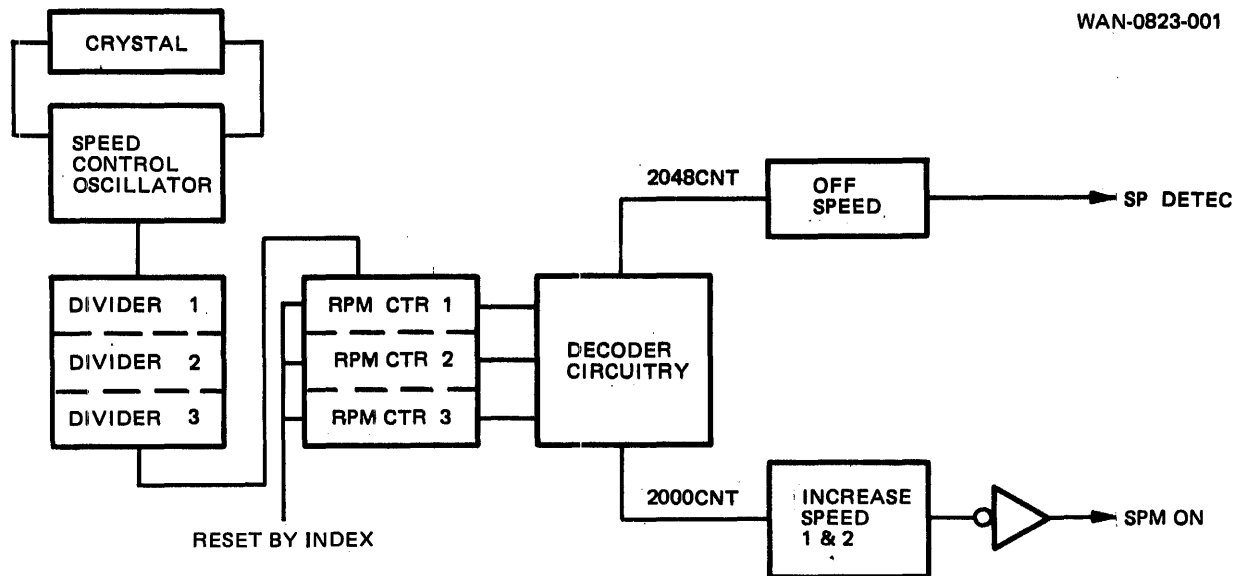

Figure 4-11. Motor Speed Detect Circuit Block Diagram
4.5.3.2 Spindle Speed Detect Circuit. The spindle motor speed detect circuit on the DCB is used to monitor the speed of the spindle motor, to provide a clock signal of 2000 pulses for each disc revolution (for either 1500 or 2400 rpm discs), and to generate the SPINDLE MOTOR ON (SPM ON) signal. The block diagram for the speed detect circuit is shown in Figure 4-11.